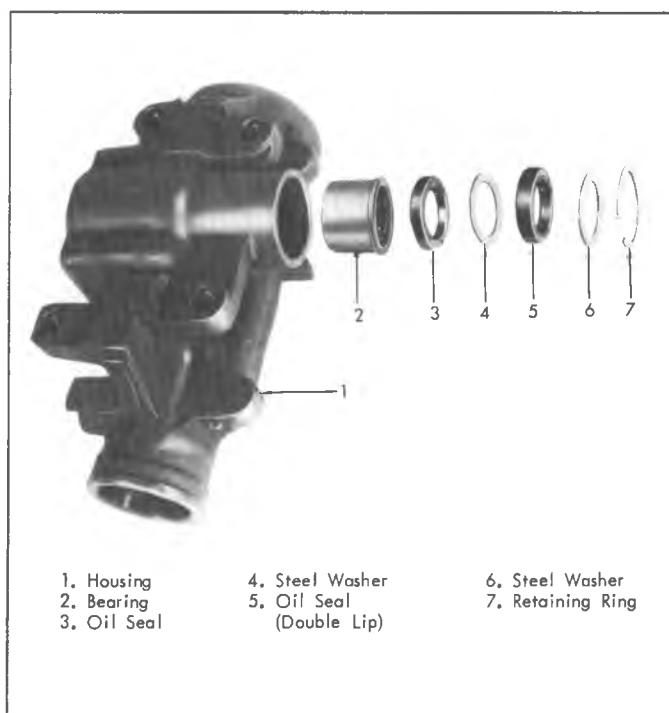

Fig. 3B-52--Pitman Shaft Bearing and Seals
1. If pitman shaft seals ONLY are to be replaced, remove the seal retaining ring with Internal Pliers J-4245 and remove outer steel washer. Pry out the outer seal. Remove the inner steel washer, then pry out the inner seal (fig. 3B-52). Discard seals.
1. If the pitman shaft needle bearing was removed, place bearing Installer Tool J-22407 onto Handle J-8092. Place needle bearing (shouldered end first) on to Tool J-22407. Press bearing into gear housing until Tool bottoms on housing. The bearing is now correctly positioned (fig. 3B-53).